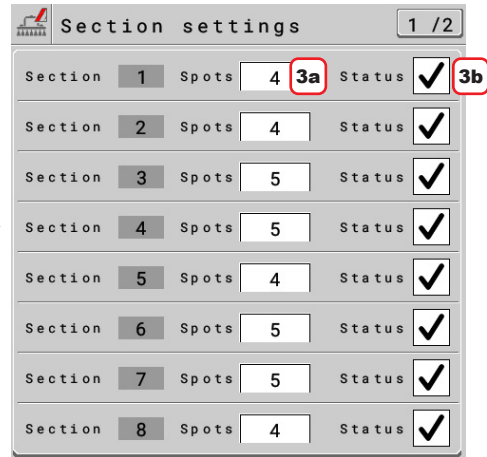

Fig. 37
- 3a Repeat the setup for each section (Fig. 37).